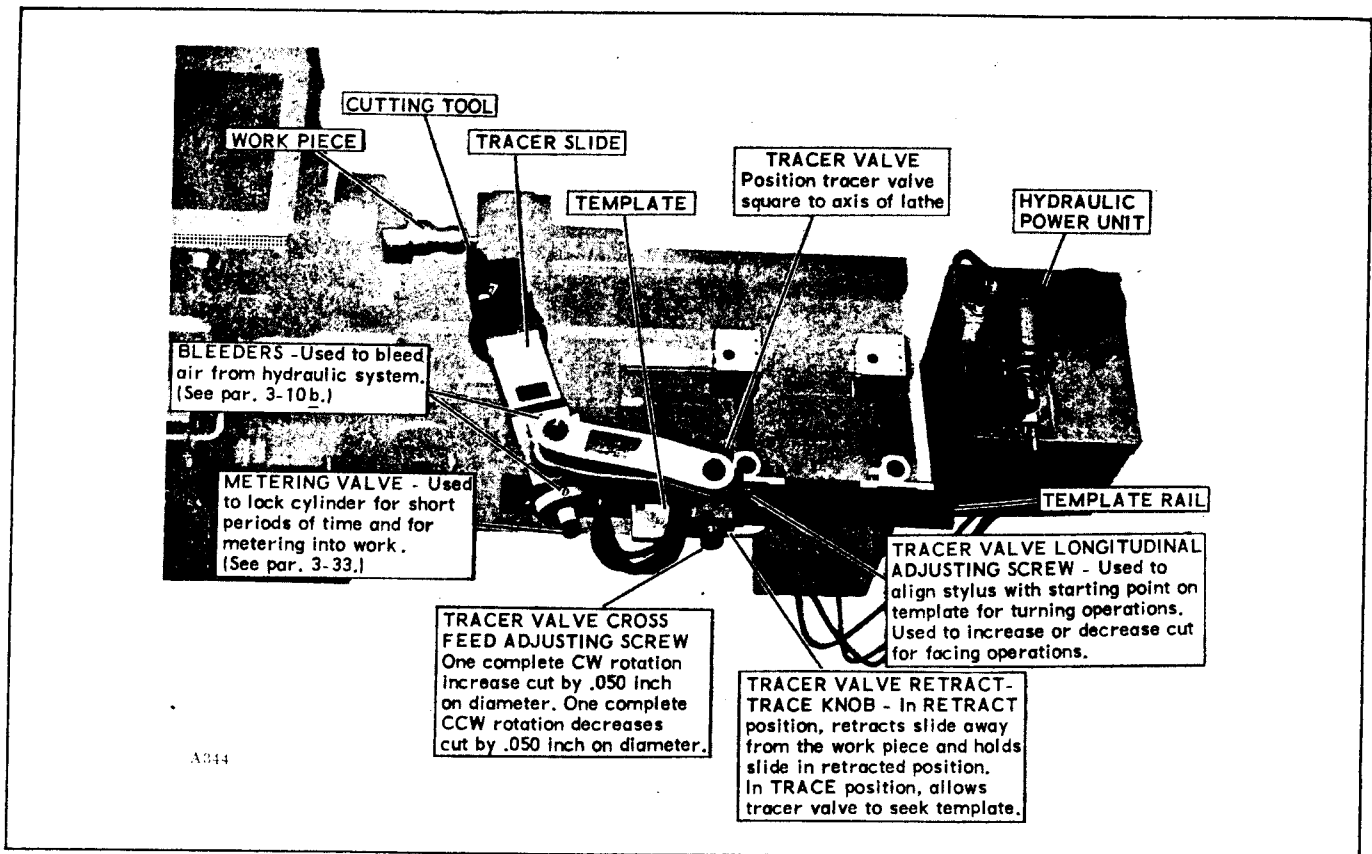
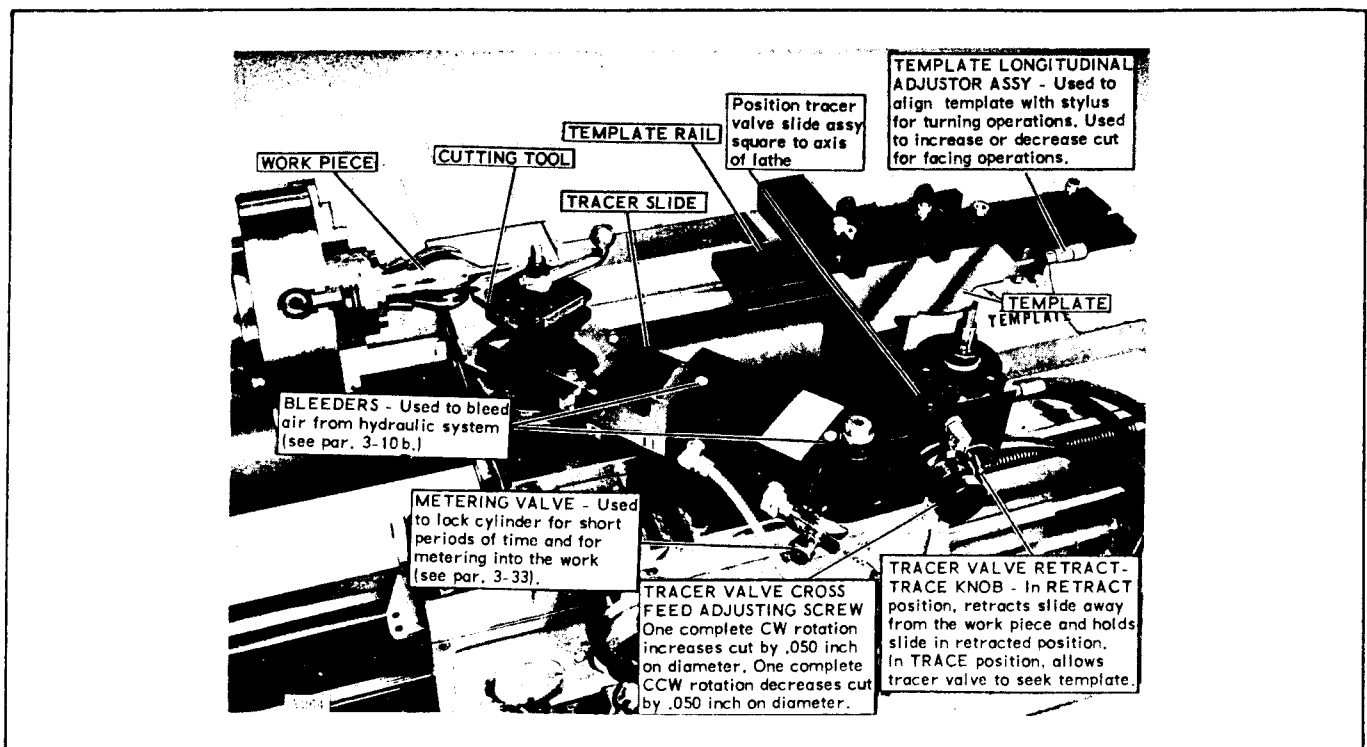

Figure 3-11. Typical Installation and Function of Operating Controls for Mark IIA, III, IV, V and VI Series
Figure 3-12. Typical Installation and Function of Controls for Mark "O" and "O-A" Series
a. Install the lathe tracer attachment as described in Section II. Refer to figure 3-11 for a typical installation and the function of operating controls for the Mark IIA, III, IV, V and VI Series. Refer to figure 3-12 for a typical installation and the function of operating controls for the Mark "O" and "O-A" Series.
g. Install the template on the template rail. Make sure the tracer valve slide assembly is positioned square to the axis of the lathe as shown in figures 3-11 and 3-12. Move the cutting tool to the starting point on the work piece, but NOT IN CONTACT with the work piece. Lock the tracer slide by closing the metering valve. Move the stylus near the edge of the template. Align the starting point on the template with the stylus and tighten the template clamps securely.
h. Align the stylus at the relative starting point on the template using the cross feed and longitudinal feed adjusting screws on the tracer valve slide (see figures 3-11 and 3-12). For the Mark "O" and "O-A" Series, adjust the stylus to the starting point on the template using the cross feed adjustment screw on the valve adjusting slide and the longitudinal adjuster on the template rail assembly.